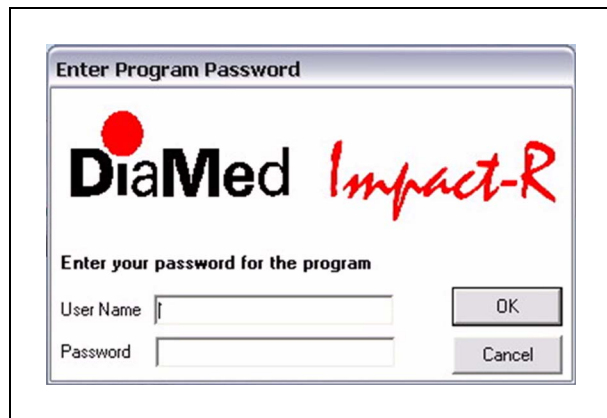

Fig. 4-5: User logon screen
- A. At the "User identification" screen (Figure 4-5), enter your user name and password.